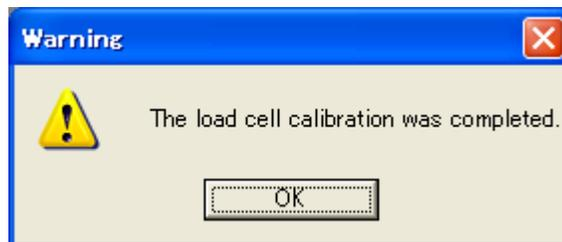

Fig. 10.19 Load Cell Calibration Completion Message
- (2) When the calibration is complete, the message “The load cell calibration was completed” (Fig. 10.19) appears.